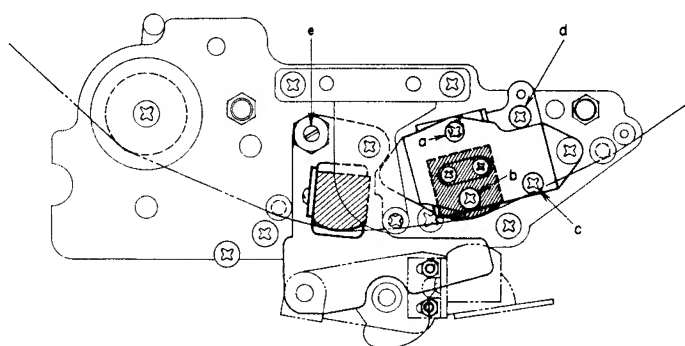

Fig. 1
(See Figs. 1 and 2)
A. Playback/Rec Head (See Fig. 1, 2)